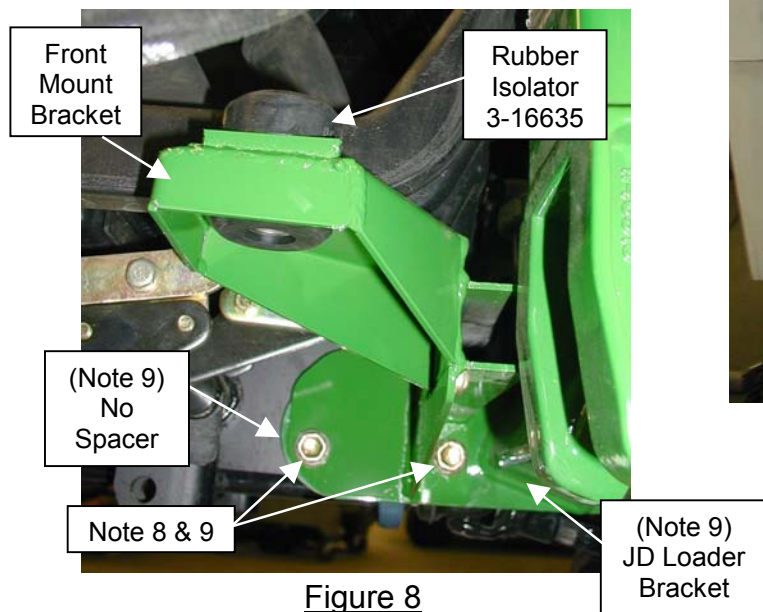

Figure 8
8. If the tractor model **does not** have a loader, install (2) Spacers #6-43373 using (4) Metric bolts 3-17372 and (4) 1/2" lock washers 3-10079, with the cab's front mount brackets.
9. If tractor model **does** have a loader, remove (4) of the JD front loader bolts and install (4) 12mm x 40mm bolts with the front mount brackets. **Spacers are not required if tractor has factory JD loader mounts.** Install (2) rubber isolators #3-16635. NOTE: Rubber Isolators (#3-16635) with pipe bushing should be inserted from the top-side of mount. See Figure 8.